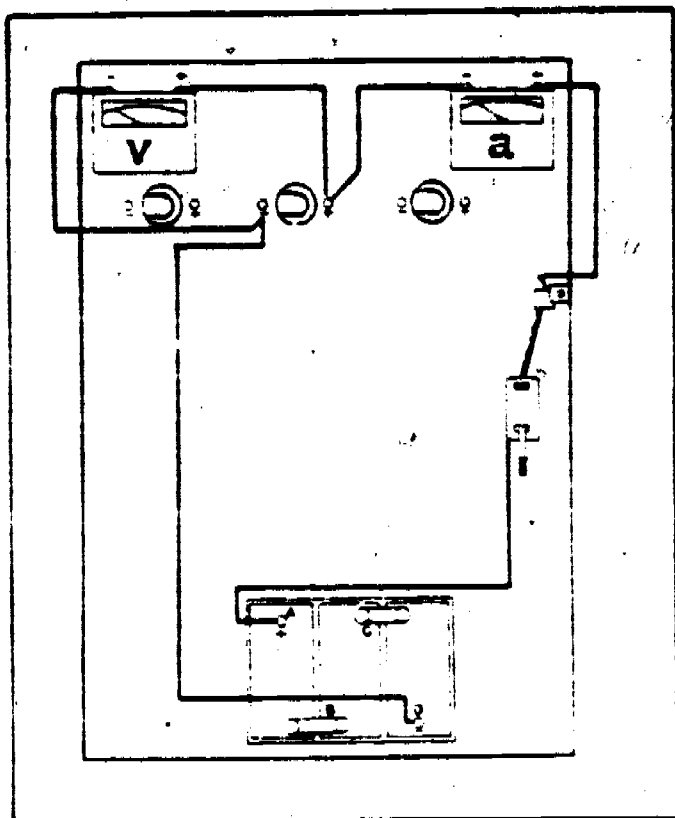

Figure 2. Series Circuit Using One Light Bulb.
1. Connect a series circuit with one light bulb as shown in figure 2.